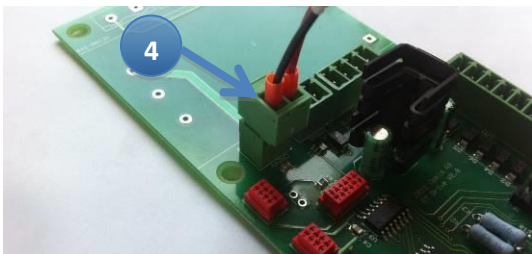

Fig.2
4. Place the motor lift as close as possible to the digester, lying on a table. Insert the two cables from the digester to the dedicated connectors on the motor lift. The red/black cable should be connected to the upper left connector on the motor board, see picture below (fig 2).